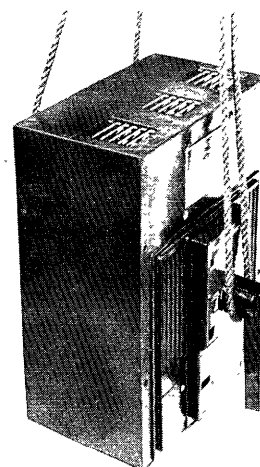

Fig. 3
- (B) If it is necessary to install terminal stubs before lifting into position, install and lift as shown in Fig. 3.